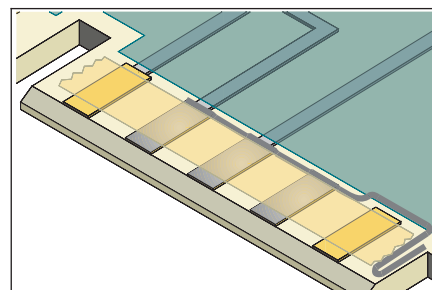

Figure 6 Apply conductive paint to the edge of the contacts.
2. Apply a thin coating of conductive paint directly to the inboard tip of each contact to be plated. The conductive paint should extend out to one edge so that a clip can be applied to make electrical connection. (See Figure 6.)